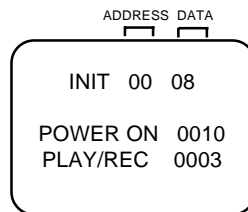

Fig. 1
2. While holding down VOLUME button on front cabinet, press key 6 on remote control. ADDRESS and DATA should appear as FIG 1.